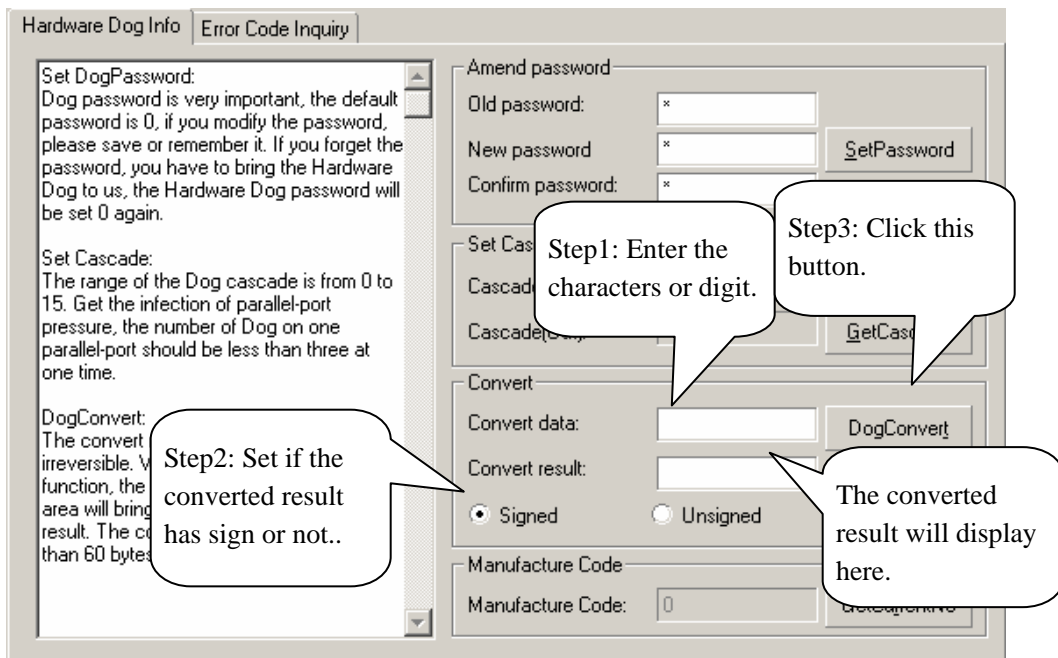

Figure 3-7
C. Follow the Step1, 2 and 3 described on the Figure 3-7 to convert the data.